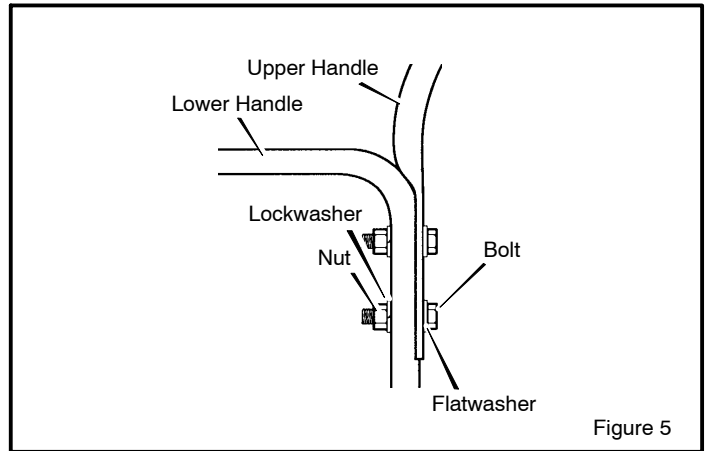

Figure 5
2. The fasteners that secure the **upper handle** to the **lower handle** are mounted in the handles. Loosen, but do not remove these fasteners (see See Figure 5).